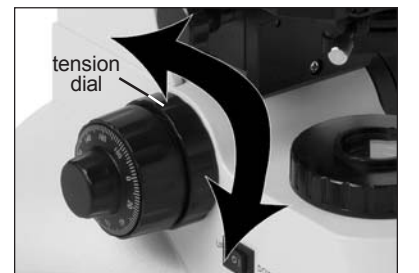

Figure 31
19. The inner-most dial located on the left focus adjustment (figure 31) controls the stage movement tension. This should be adjusted to where the focus controls are smooth and easy to turn but not so loose that the stage drifts out of focus.